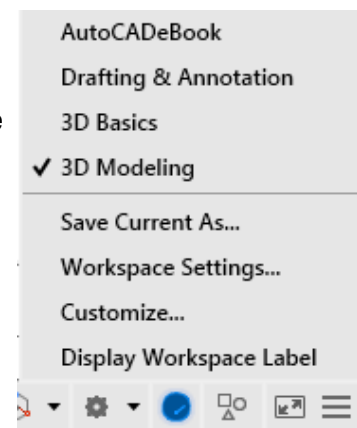

Figure Step 4A
Step 4 Click the small arrow in the Workplace Switching icon on the Status bar. Click the workspace: 3D Modeling to set it as the current workspace. Ensure that the check mark is beside the workspace: 3D Modeling as shown in the figure. (Figure Step 4A and 4B)